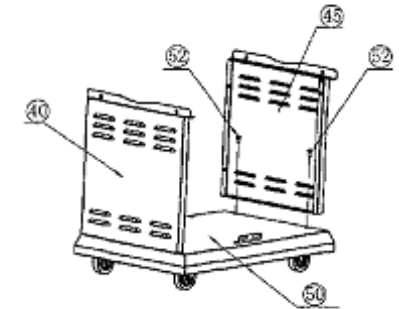

FIG2
2. Secure Right Plate (45) on the Platform (50) with 1/4-20* 1/2Bolt (52). As shown in FIG2.